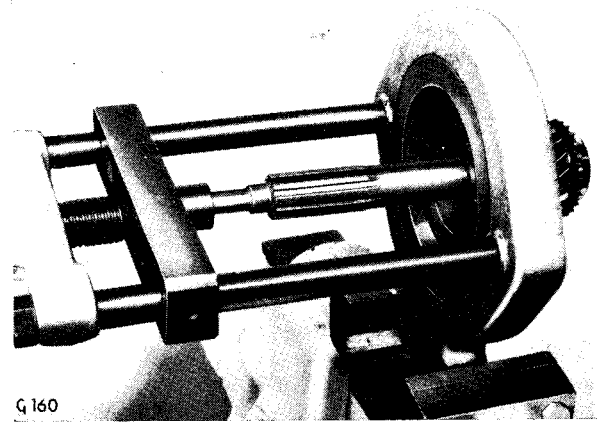

Fig. 29. Withdrawing input shaft ballrace
Remove the circlip (37) and snap ring (38). Using Tool No. S.4221A and adaptor No. S.4221A-19/1, extract the ballrace (29) and oil thrower (40), Fig. 29.